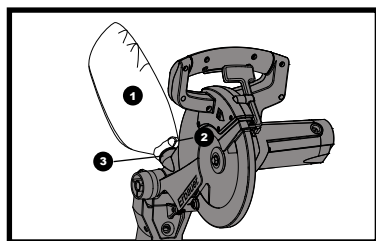

Fig 5
1) Squeeze the metal collar wings (2) of the dust bag (1).
2) Place the dust bag neck opening around the exhaust port (3), and release the metal collar wings. (See fig. 5)